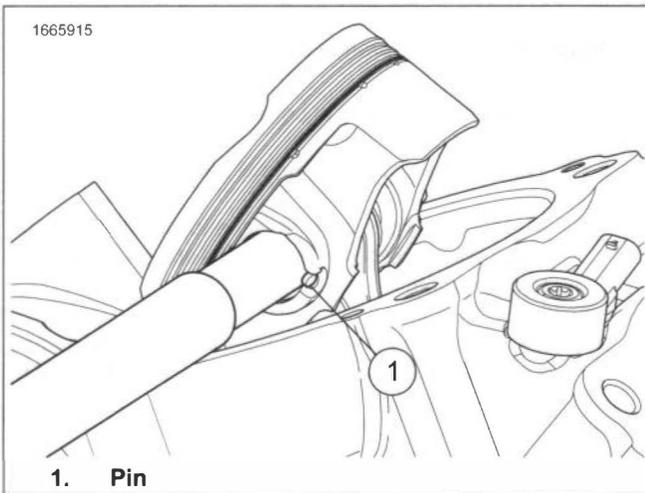

Figure 4-55. Circlip Tool Pin
- b. See Figure 4-55. Insert circlip tool with pin (1) on circlip tang.